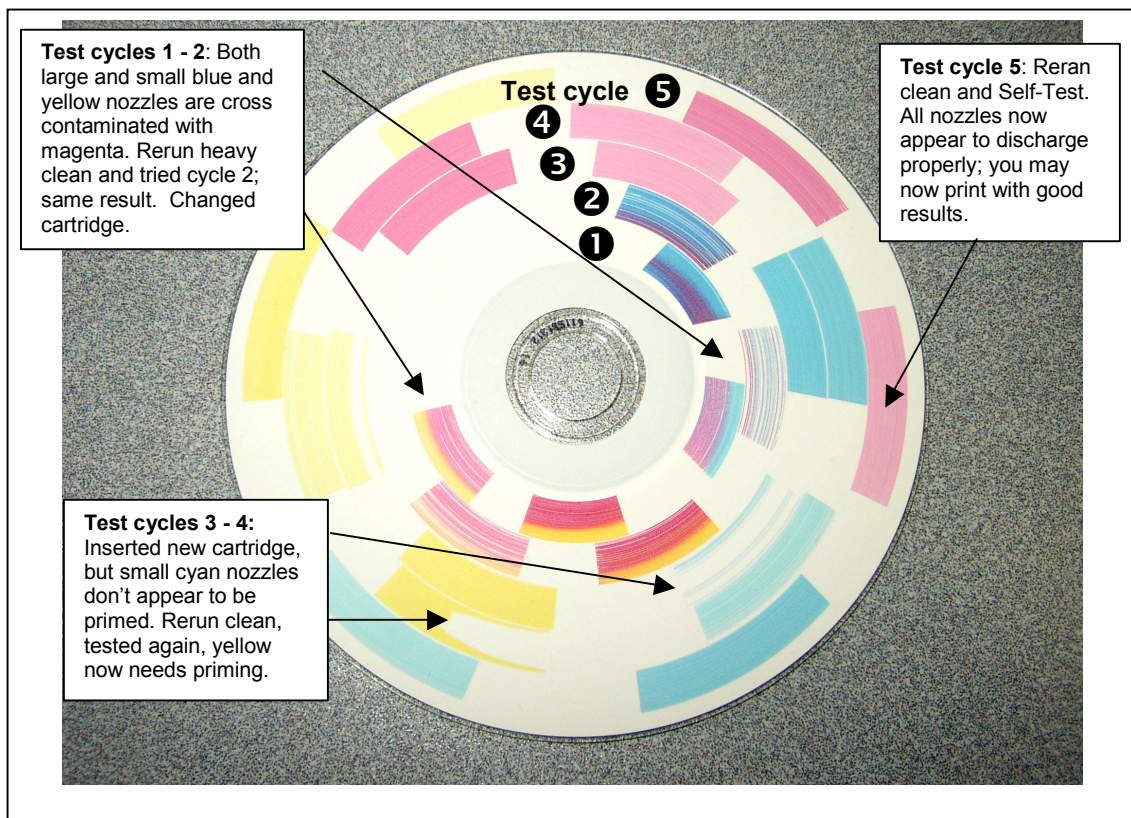

Figure 7— Cross-Contaminated and Unprimed Ink Nozzles
If you inadvertently wipe the nozzle plate sideways instead of lengthwise, you may experience cross-color contamination. As shown in Figure 7, this may cause wrong colors to appear in the when printing Self-test, such as orange or red for yellow, or green for cyan.
5. If necessary, replace the cartridge and prime, as illustrated in Figure 7